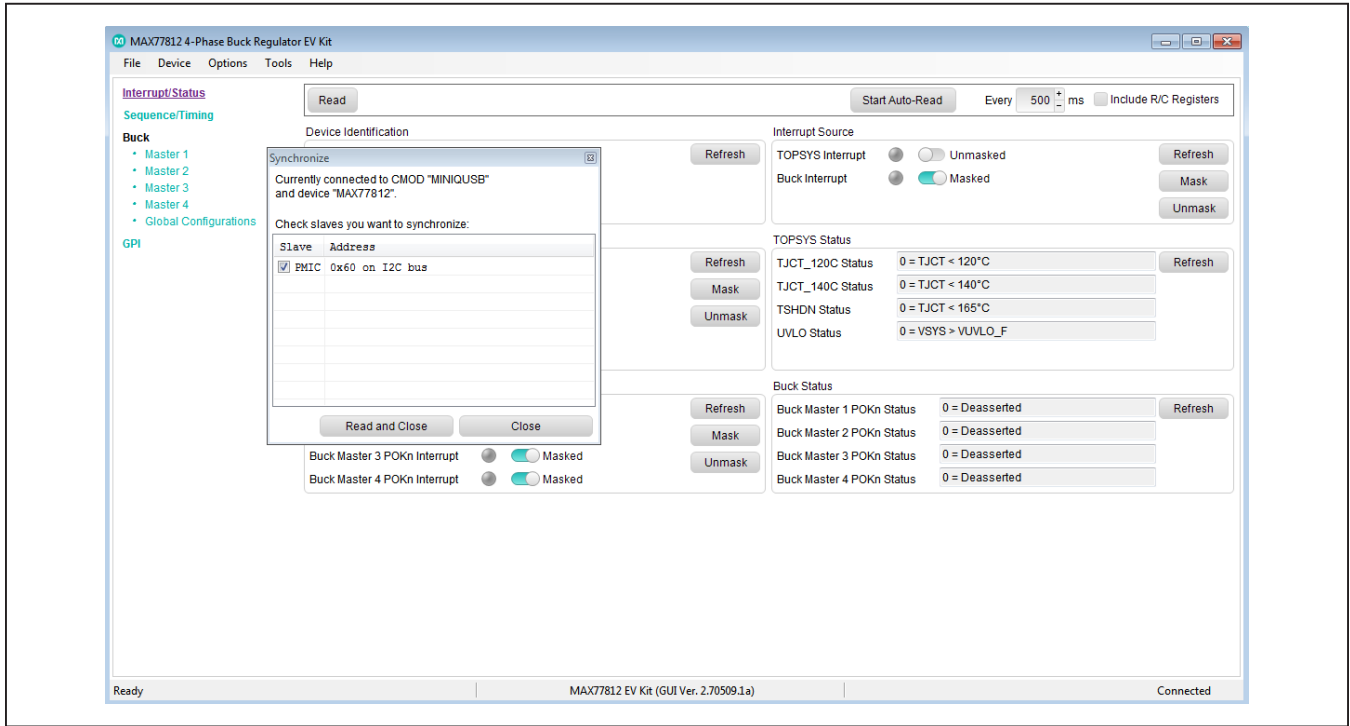

Figure 4. MAX77812 EV Kit GUI Connection
- 4) Enable the power supply output and confirm the input current is low ($< 100\mu A$). Open the MAX77812 GUI window and click on **Device** then **Connect**. If the connection is successful, it displays the message **Currently connected to MINIQUSB CMOD and DEVICE MAX77812**. Click **Read and close** (Figure 4).